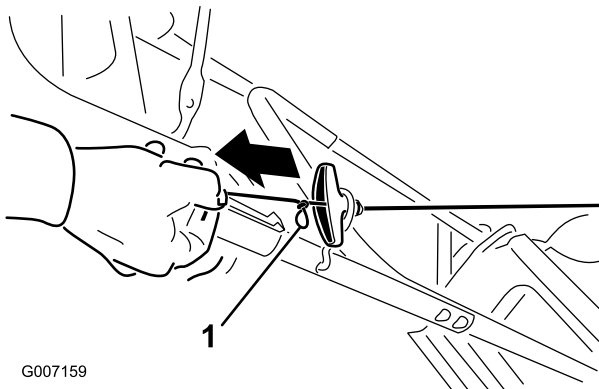

Figure 5
- Untie the slip knot in the starter rope (Figure 5).